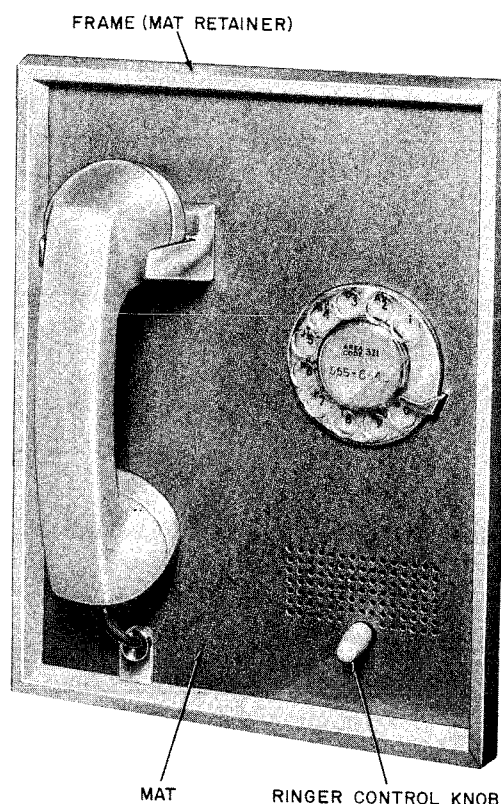

Fig. 1—750-Type Telephone Set
2.01 The 750-, 1750-, and 2750-type single line general purpose sets and 751-, 1751-, and 2751-type two line sets may be recess mounted or adapted for surface mounting using D-180071 or D-180072 Kit of Parts (Fig. 1, 2, and 3).